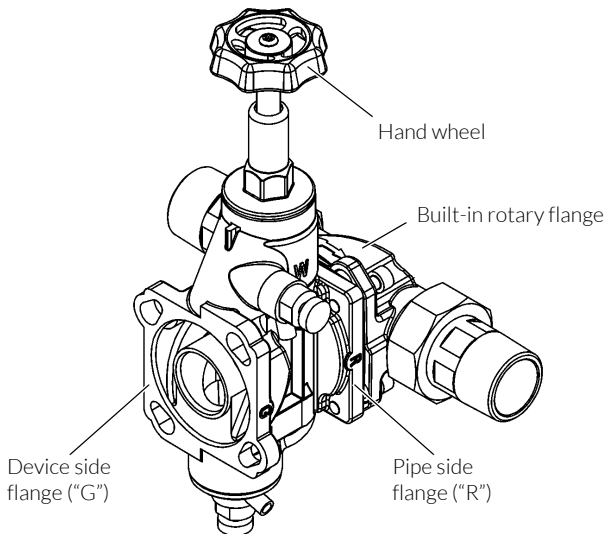

Fig. 6: Bypass valve
- / Connect the bypass valve with the built-in rotary flange, by engaging the bayonet, on the flange side with the cast-in letter "R" (R=Rohr [pipe]) (see fig. 6).
- / Insert the heads of the four M6×25 hexagon socket head screws through the bayonet holes on the device-side flange "G" (G=Gerät [device]) of the built-in rotary flange (see fig. 6).